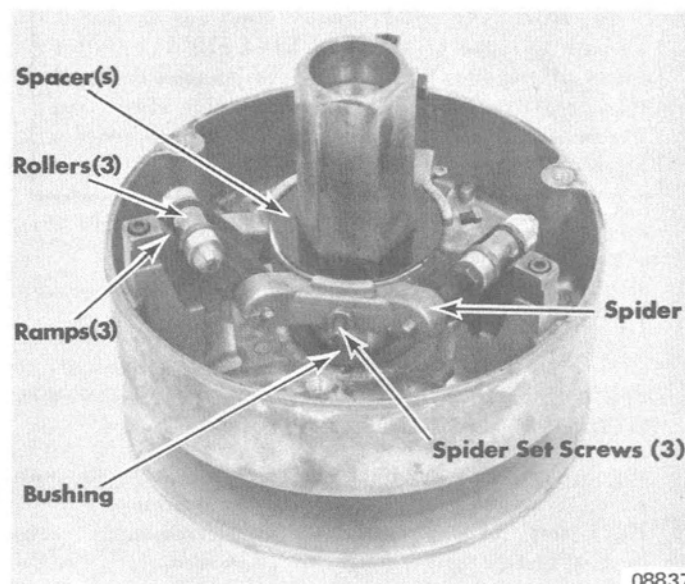

Figure 7. Drive Sheave Spacer
On Twister Snowmobiles equipped with the blue (C-24-71517) return spring, drive sheave engagement RPM can be increased or decreased by installing or removing spacer(s) (D-23-71729) between cup washer and split ring in drive sheave. (Figure 7)
3. Loosen spider locknuts, then set screws, until spider is loose on hex shaft. (Figure 7)